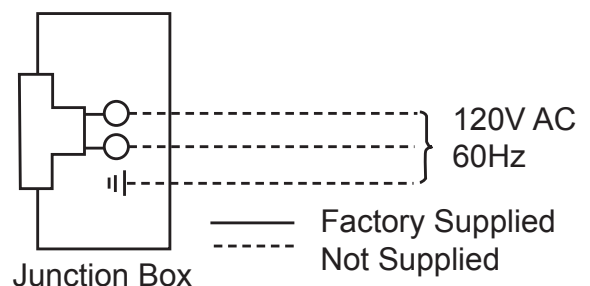

Figure 8.2 - Junction Box Wiring Diagram
3. The junction box cover has a factory installed "romex" style strain relief connector. After connecting the wires, route the wire leads through this connector. Refer to the wiring diagram in Figure 8.2.